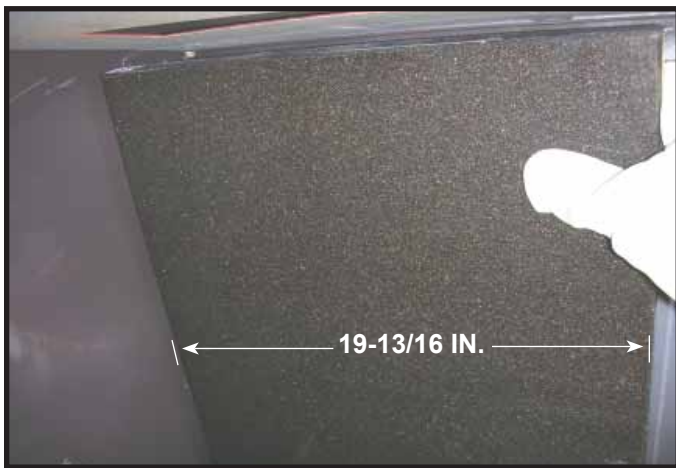

Figure 11. Installing First Back Panel Granite Piece.
3. Measure granite pieces to ensure you are installing them in the correct orientation. Install back panel pieces first. See Figure 11. These pieces are wider than they are tall. Install so the side measuring 19-13/16 inches is the width. Pieces should be installed left to right. Place granite into firebox, bottom side first. Tilt the top away from you, placing it into position. Secure each piece individually as it is placed into position to keep it from falling while the next piece is placed.